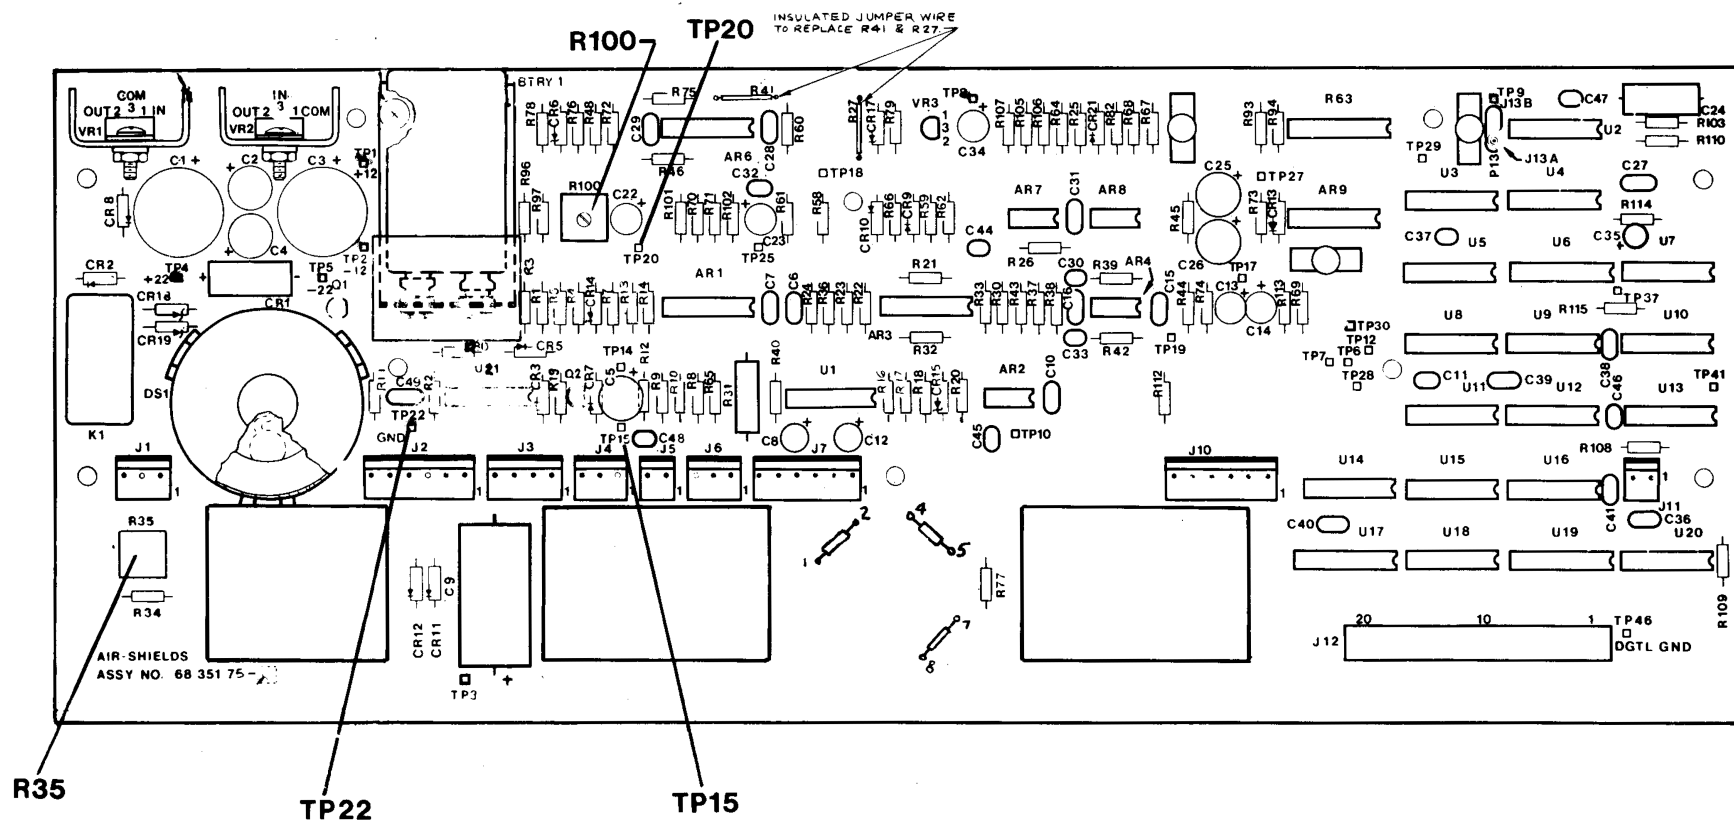

FIGURE 5.3 PCB2 (MODEL C200), LOCATION OF TEST POINTS AND ADJUSTMENTS
3. On the Simulator, set the MODE switch to AIR and the TEMP switch to 36°C. Refer to Figure 5.3 for location of test points and adjustments.
1. Refer to Figure 5.3 and connect the DVM between TP20 (+) and TP22 on PCB2.